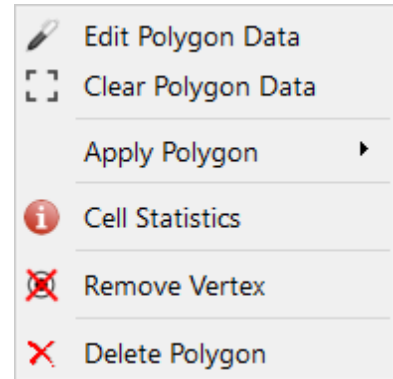

Figure 25. The Polygon Data Menu
- **Polygon Data Menu** (Figure 25): Contains functions specific to an individual polygon and is accessible by right-clicking on a vertex of that polygon.
2. **Polygon Data menu** (Figure 25): This menu contains functions related to an existing polygon and can be opened by right-clicking on a white vertex of that polygon.